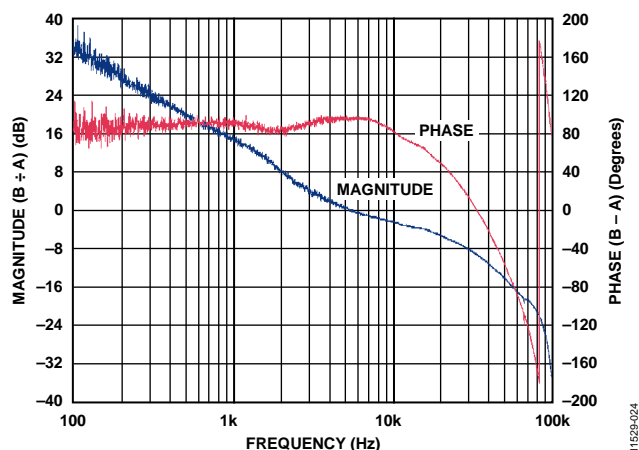

Figure 24. Control Loop Test by AP300 Loop Analyzer
5. Using the loop analyzer, the user can verify the programmed control loop as shown in Figure 24. During the test on the control loop, the test signal from the loop analyzer can be easily injected in JP1 of the evaluation board.